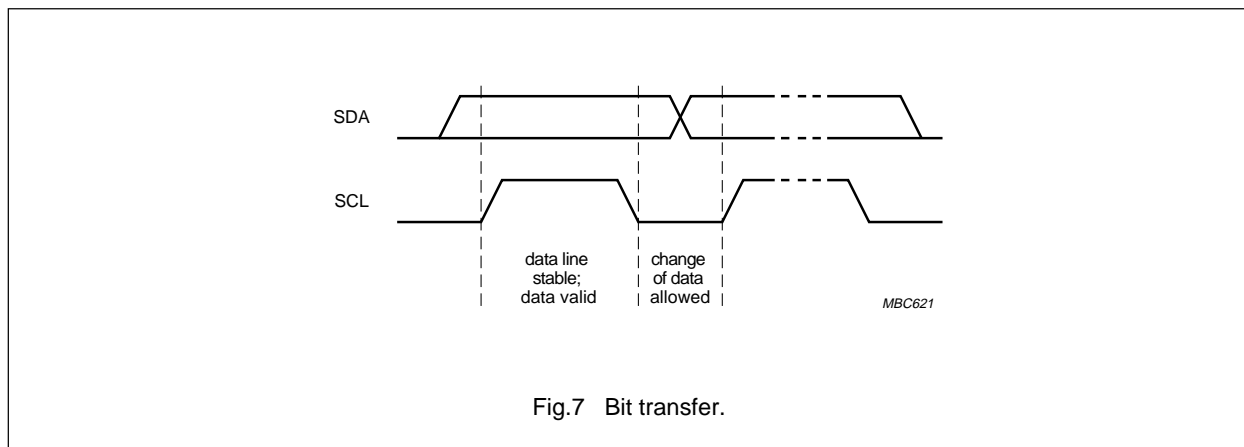

Fig.7 Bit transfer.
**8.1 Bit transfer** (see Fig.7)